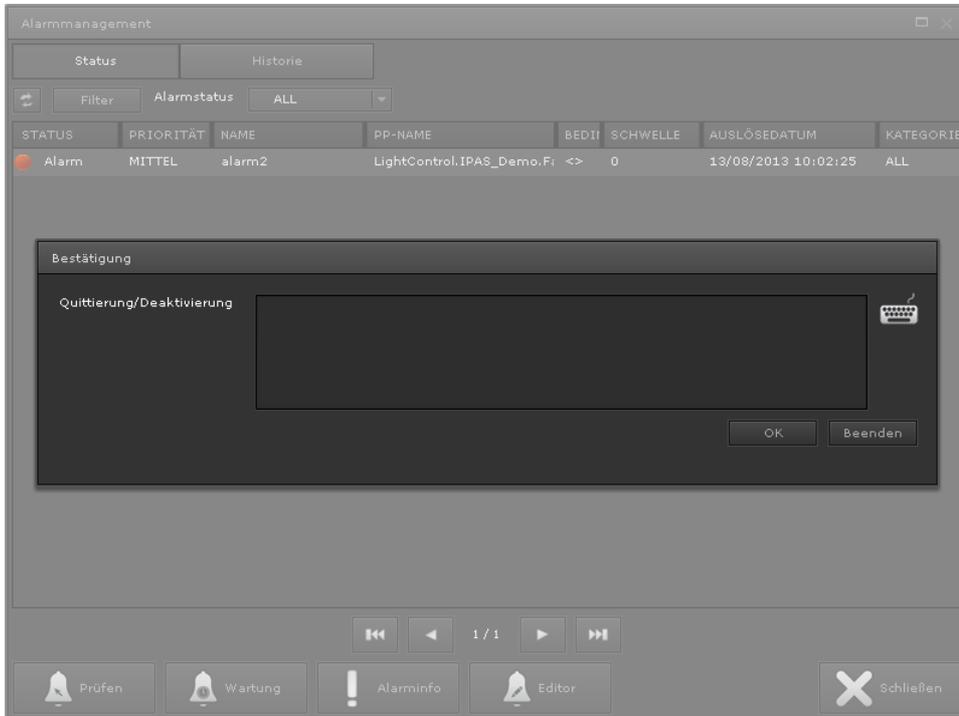

Abbildung 78:
**Check alarm:** Opens a text input field in connection with the alarm management window. See Abbildung 78:.